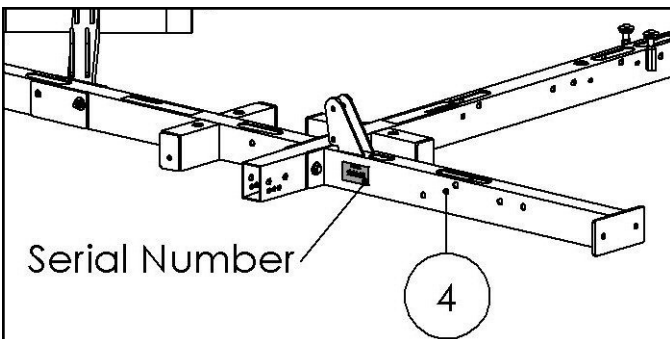

Figure 1A
- **Set** the Chest Base (1) in a location close to the gym's final position. (See Layout Diagram on the back cover of this manual). Keep in mind that you should allow at least 18"-24" as working room around the unit.
- **Record** your serial number on the front of this assembly instructions and keep for your records. The serial number can be found on the back side of the Leg Ext/Curl Base (4), as seen below in Figure 1A.